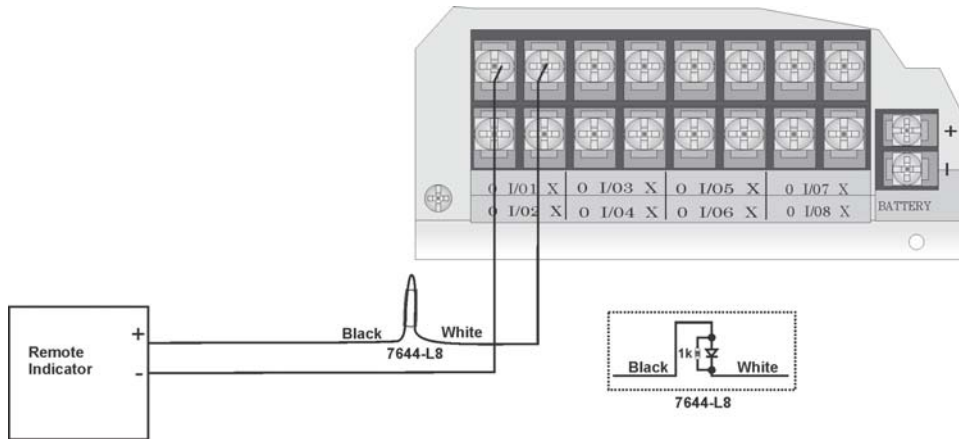

Figure 4-46 Polarity Reversal Connection Using the 7644
- Wire the 7644-L8 to the control panel as shown in Figure 4-46. Do not install an EOL resistor on the terminals of the Flexput circuit used.